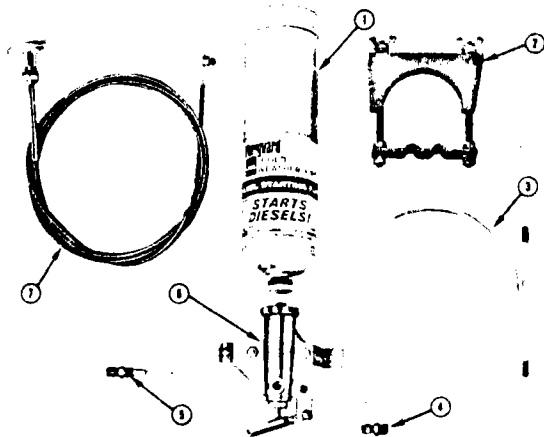

Fig. 1-11, (V11011). Manual operated valve
The manually operated valve, illustrated in Fig. 1-11 includes the valve body assembly (6), clamp (2) and nylon tube (3). The fuel cylinder (1), atomizer fitting (5) and pull control (7) must be ordered separately.